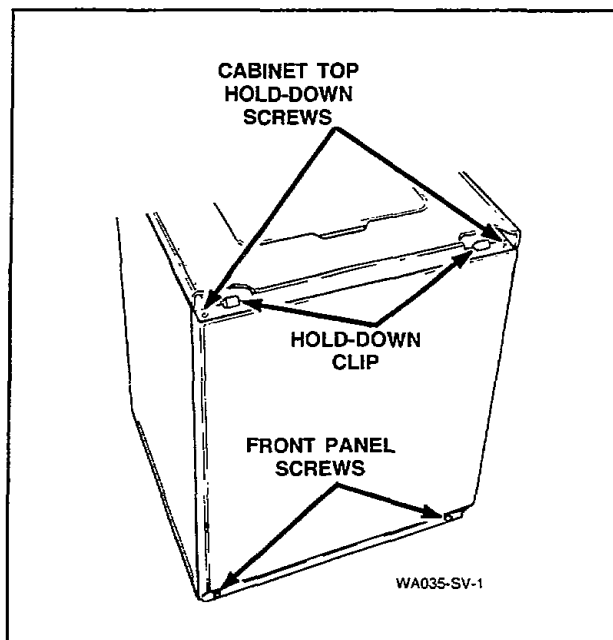

Figure 21
18. FRONT PANEL (Refer to Figure 21)
- Remove two screws from bottom edge of front panel, *Figure 21*.
- d. Remove the two screws from bottom edge of front panel, *Figure 21*.